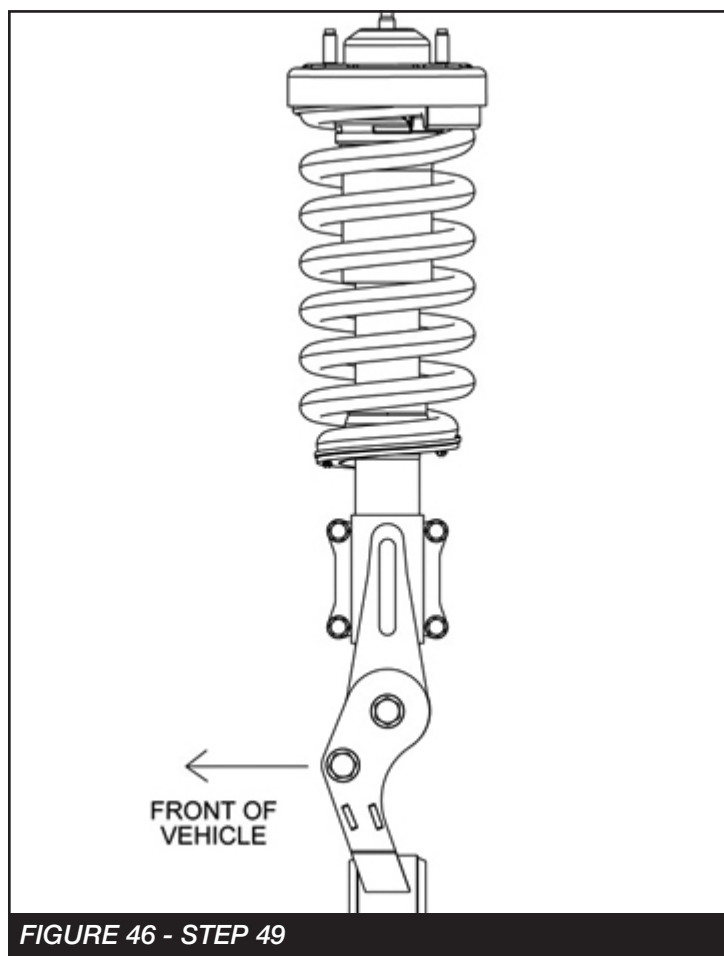

FIGURE 46 - STEP 49
49. Install the coil over into the frame bucket. Rotate lower mount inline with the control arm tabs, and the pivot at the control arm using the factory hardware. Torque the upper nuts to 35 ft-lbs and the lower pivot to 100 ft-lbs. Refer to the drawing below for shock orientation in the vehicle. **SEE FIGURE 46**